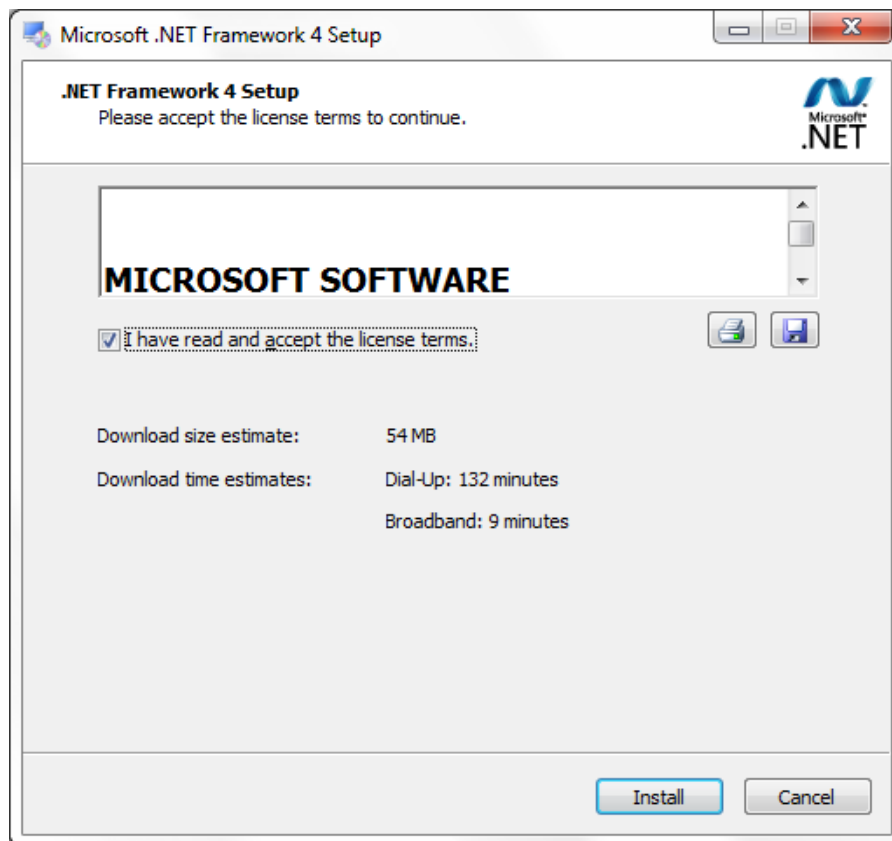

Figure III.1.13: Accept license terms of Microsoft .NET 4.0.
- Accept the license terms and click on "Install". See Figure III.1.13.